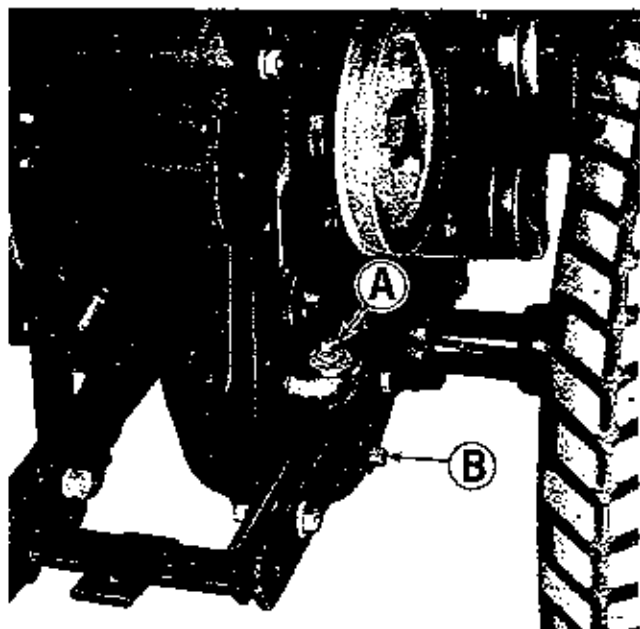

Figure 30. Rear of tractor showing axle drive housing.
**CHECK TRANSMISSION OIL LEVEL:** See figure 30. Remove pipe plug (A) to check the oil level in the axle housing. Oil should be level with the bottom of the threads. If it is not, add SAE 90 weight transmission oil. Replace the plug and tighten it securely.